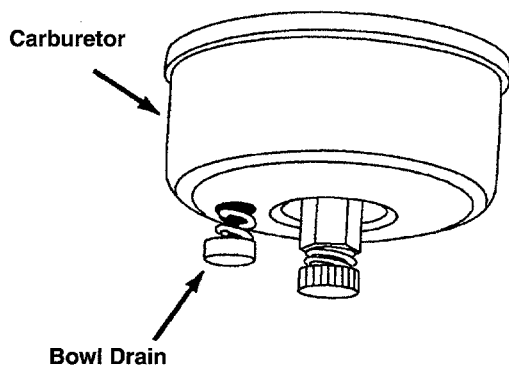

Figure 29
- Drain carburetor by pressing upward on bowl drain, located below the carburetor cover. See Figure 29.